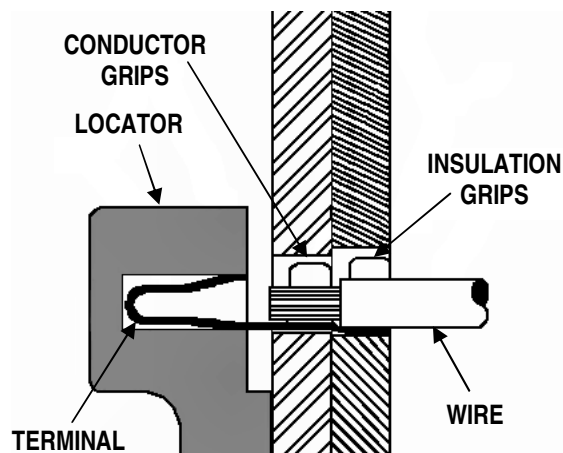

Figure 2
3. Place a pre-stripped wire into the terminal and align the wire with the conductor and insulation grips visually. See Figure 2.